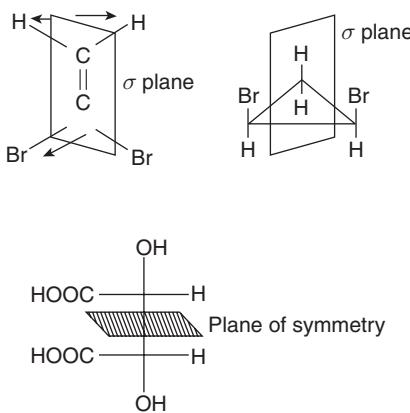

Figure 8 Compounds having plane of symmetry.
- 1. Plane of symmetry:** The plane that divides an object into two identical halves is called a *plane of symmetry*. An orange can be divided by a plane into two identical halves so it is achiral. Our hand cannot be divided into two identical halves, that is, the hand does not have a plane of symmetry and hence it is chiral. Some compounds showing plane of symmetry are shown in Figure 8: